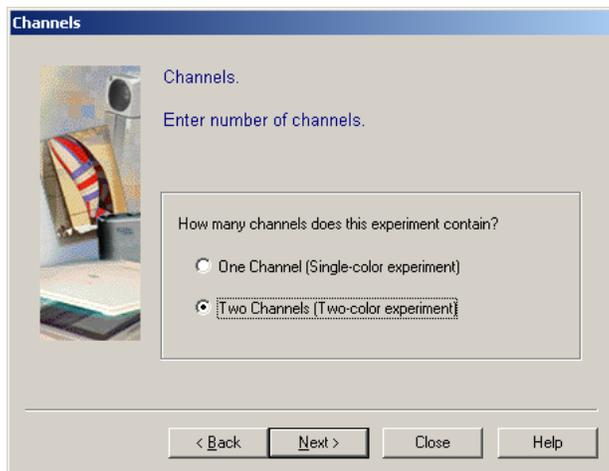

Figure 9 Channels Dialog Box
- a. Enter the appropriate rows in the **Header** and **Data** text boxes as shown in Figure 9 (if they are not entered by default). *Selecting **End of file for Data end...** instead of specifying the row containing the end of the data allows flexibility when this scheme is used on future files.*
3. The Select Number of Channels dialog box opens (Figure 9):